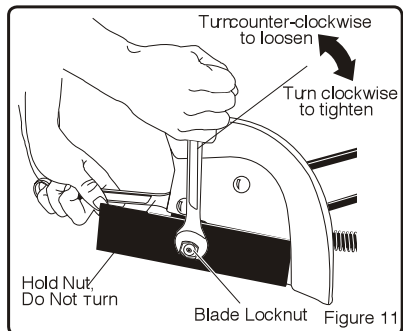

Figure 11
3. Remove the blade locknut that holds the blade to the drive shaft. (See Figure 11)
To remove or tighten the blade locknut, always use the method shown in Figure 11. Always position the holding wrench on the nut behind the blade.